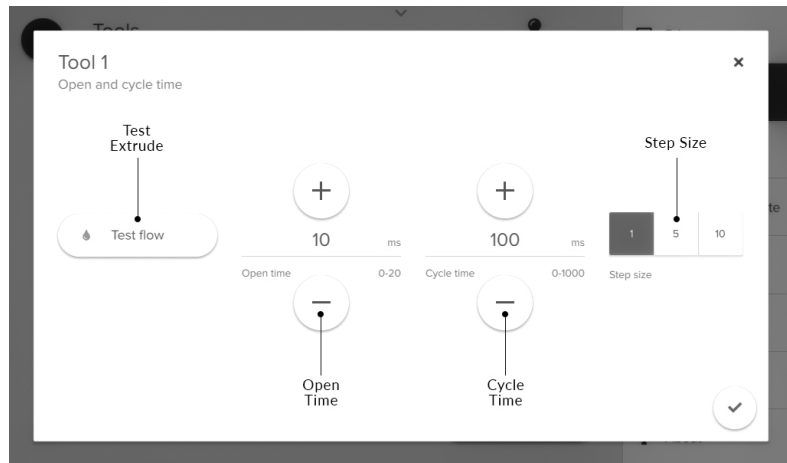

Figure 15: Adjustable parameters for the EMD Printhead.
2. Select the EMD Printhead parameters button to adjust the open and cycle time (Figure 15)